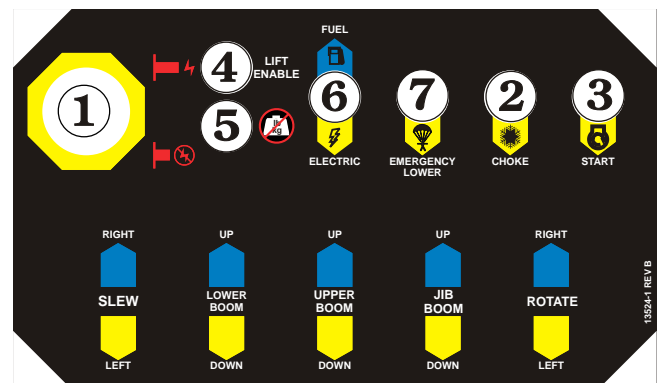

**Figure 8.3 - Lower Controls - Movement Control Valve Levers**
12. **Movement Control Levers:** Control levers 1 through 3 (see Figure 8.3) operate the upper and lower boom and slew control valves.